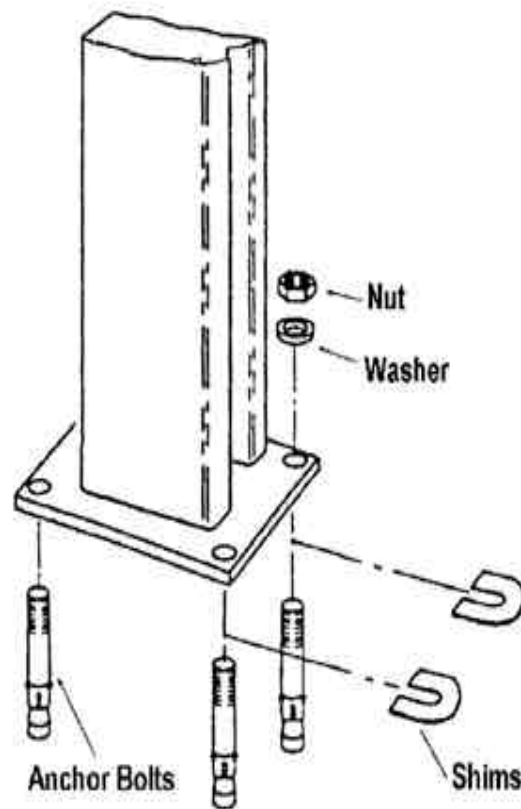

Fig. 7
5.If shimming is required, insert the shims as necessary under the baseplate so that when the anchor bolts are tightened, the columns will be plumb. (See Fig. 7)